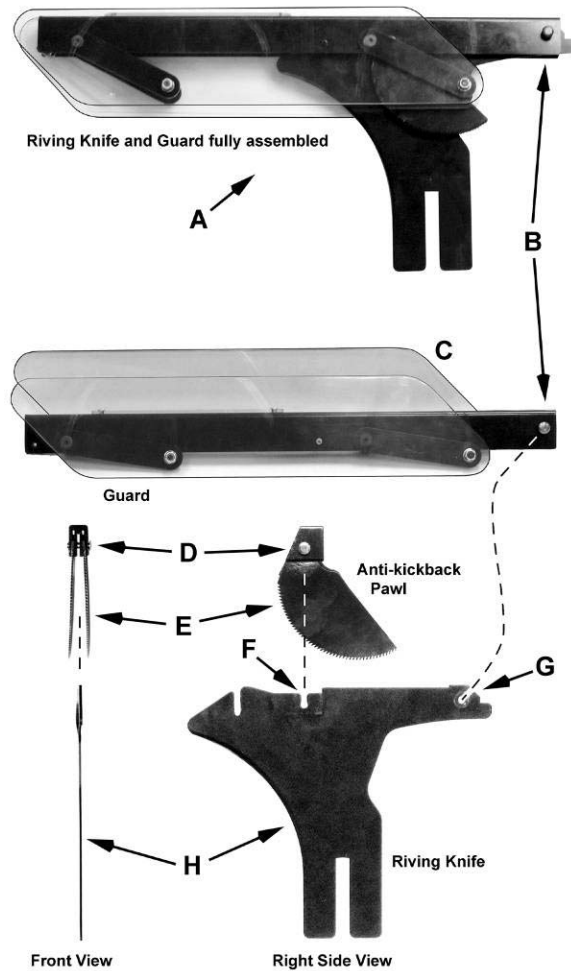

Figure 8
Referring to Figure 8:
Referring back to Figure 8:
1. Remove the guard and pawl (Figure 8, Items C, E).